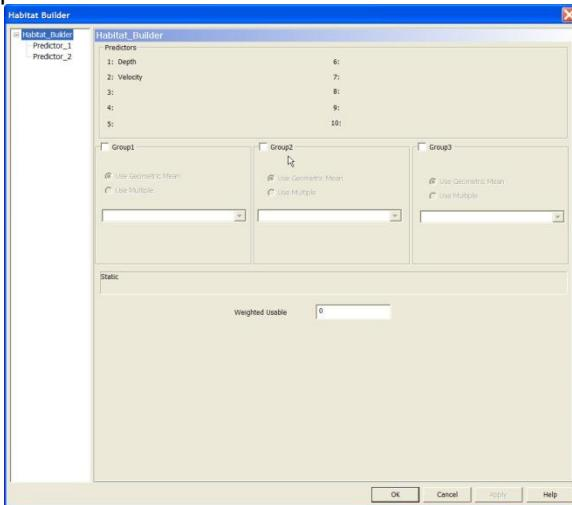
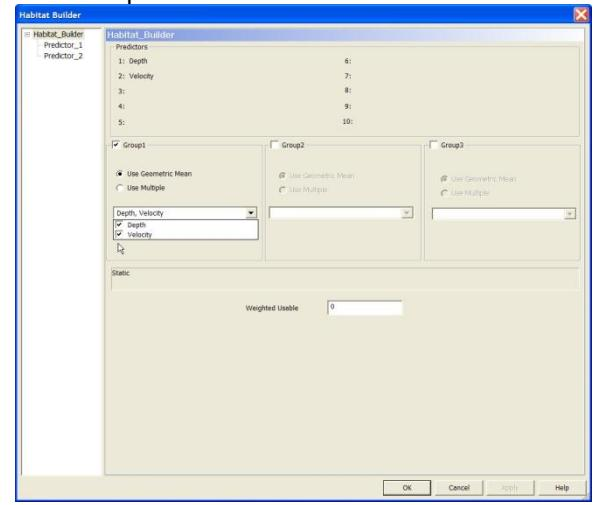

Figure 3.2.7g Habitat Builder dialog following the addition of depth and velocity predictors
Figure 3.2.7h Habitat Builder dialog showing selection of depth and velocity
4. Return to the Habitat Builder dialog by left clicking the Habitat Builder branch of the data-tree (Figure 3.2.7g). In the Predictors box of the dialog, depth and velocity will be listed. To define habitat, predictors may be combined in one to three groups as defined by the user. In this case, one simple group of depth and velocity is used and the habitat is calculated as the geometric mean of the two quantities. To do this check the first group box which will enable the Geometric Mean and Multiple options as well as the drop-down list box. Select the Geometric Mean option and using the drop-down list box check both depth and velocity as in Figure 3.2.7h.